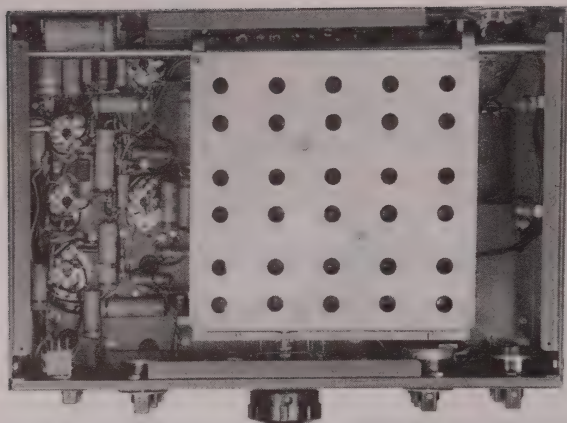
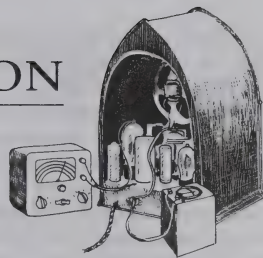

Fig. 2. Coil tray is supported by long steel rod in back, pinion gear in front.
Fig. 3. After removal of tray, coils and contacts become accessible for maintenance.
Fig. 2 shows the bottom of the radio with the coil tray in place, supported by the long steel rod in the back and the pinion gear in the front. Fig. 3 shows the inside of the tray, with a clear view of the rack in front and the mounting ears for the steel rod in the rear. Not shown are the pins extending down from the coil blocks, which engage the spring contacts attached to the variable
Step 5. Find a piece of lumber about $\frac{3}{4}$ " \times $1\frac{1}{2}$ " by about a foot long and insert it between the chassis rear and the rod. If there is a capacitor in the way, as in Fig. 2, remove it first. Then, gently but firmly, spring the rod free of the chassis. You should now be able to slide the whole assembly up and out of the chassis.